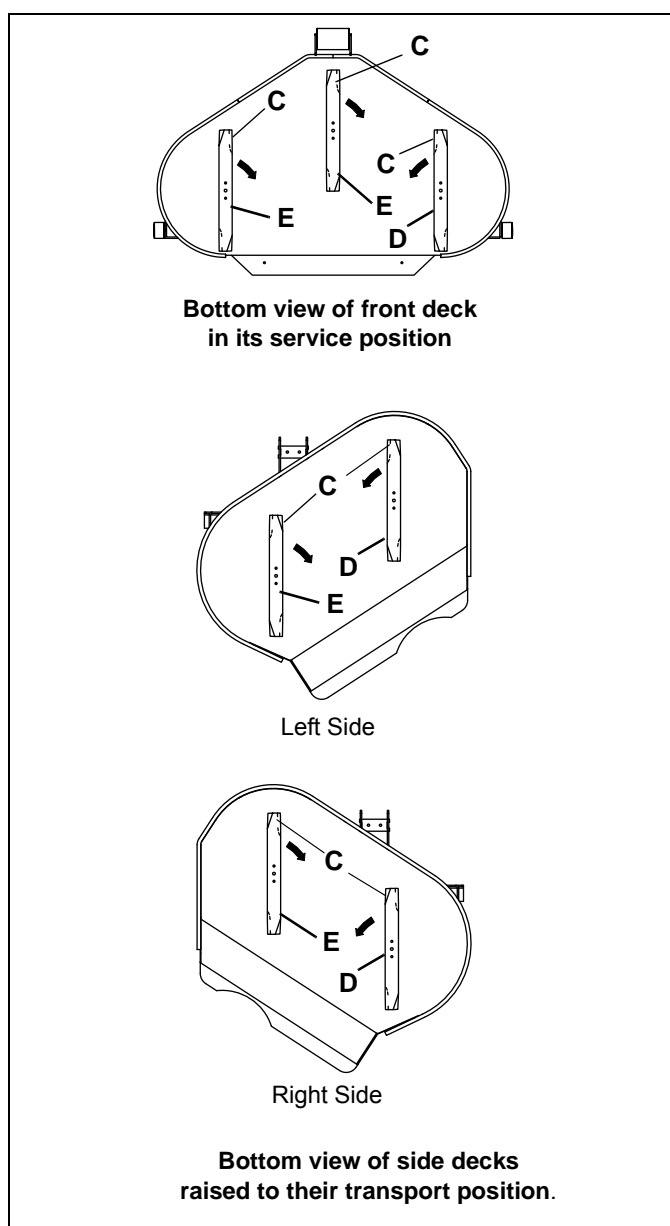

Figure 7C
5. Identify the three clockwise rotation (D) and four counter-clockwise rotation (E) blades. The blades for clockwise rotation are installed on the left front deck motor, the outside left wing deck motor, and the inside right wing deck motor. (Rotation is determined by normal motor rotation viewed from top of deck).
6. Install blades so cutting edges (C) face the direction of rotation as shown in **Figure 7C**. Air vane of blade must face in toward deck housing.